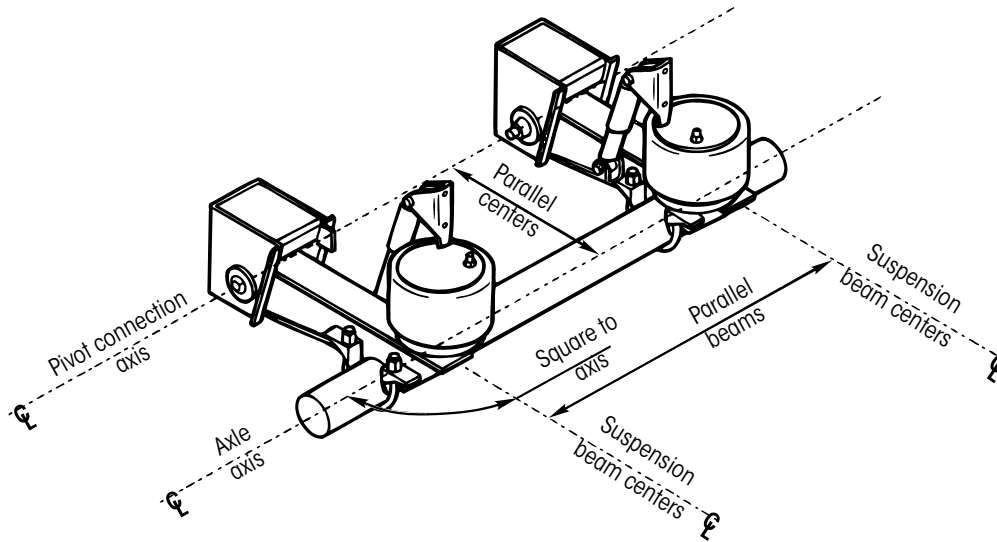

Figure 2: Component position factors
- The **proper positioning of suspension components**, relative to one another, as well as to other trailer components, **is crucial** to extended component life. The three most important factors in this relationship are as follows (refer to Figure 2):